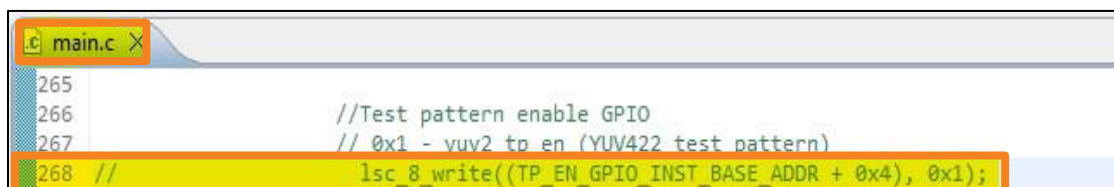

Figure 10.4. Firmware Code to Enable the UYV422 Test Pattern
2. Uncomment line 268, as shown in Figure 10.4.